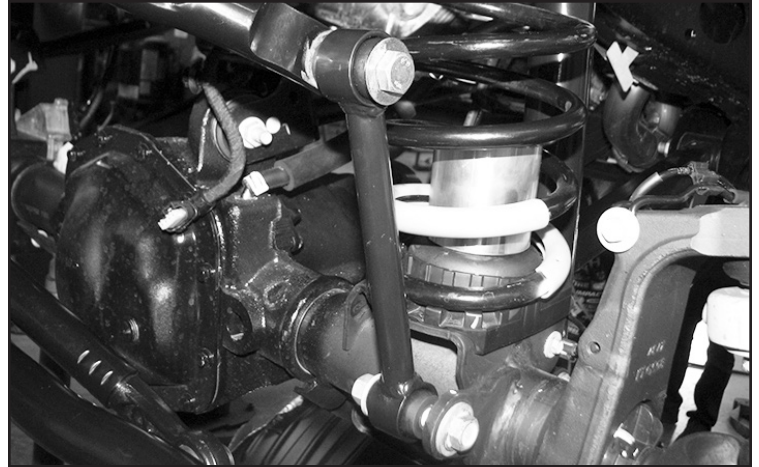

FIGURE 26 - STEP 21
21. Install FT50048 (Bushings) and FT404739 (Sleeves) into FT50261BK (Sway bar links). Then, install the links to the axle mount and sway bar using the supplied M12 x 70mm hardware. Torque to 100 ft-lbs. **SEE FIGURE 26**